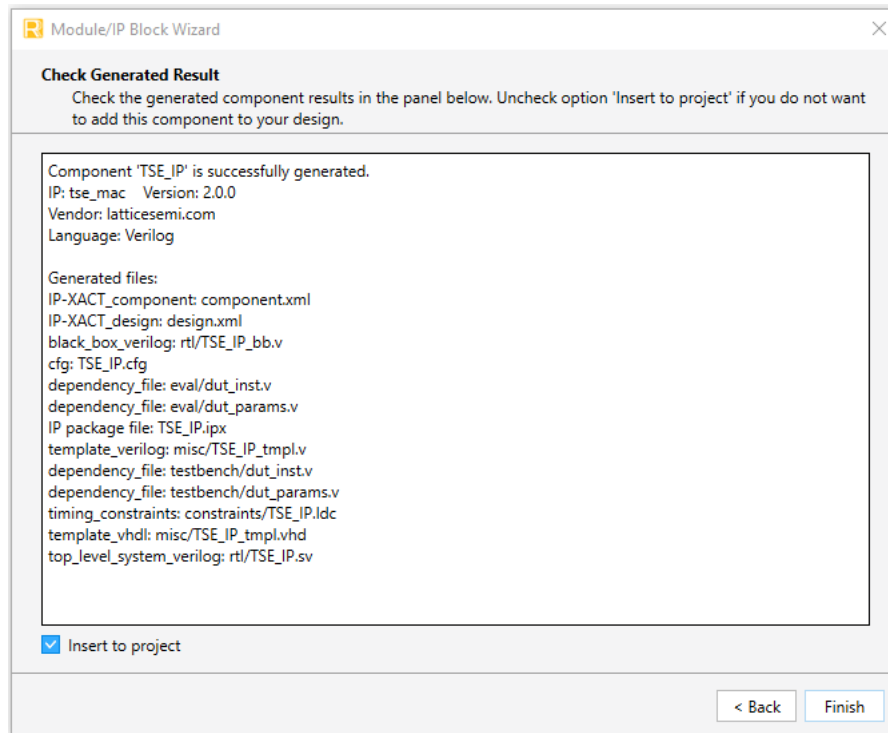

Figure 7.3. Check Generated Result
- Click **Generate**. The **Check Generating Result** dialog box opens and displays the design block messages and results as shown in Figure 7.3.